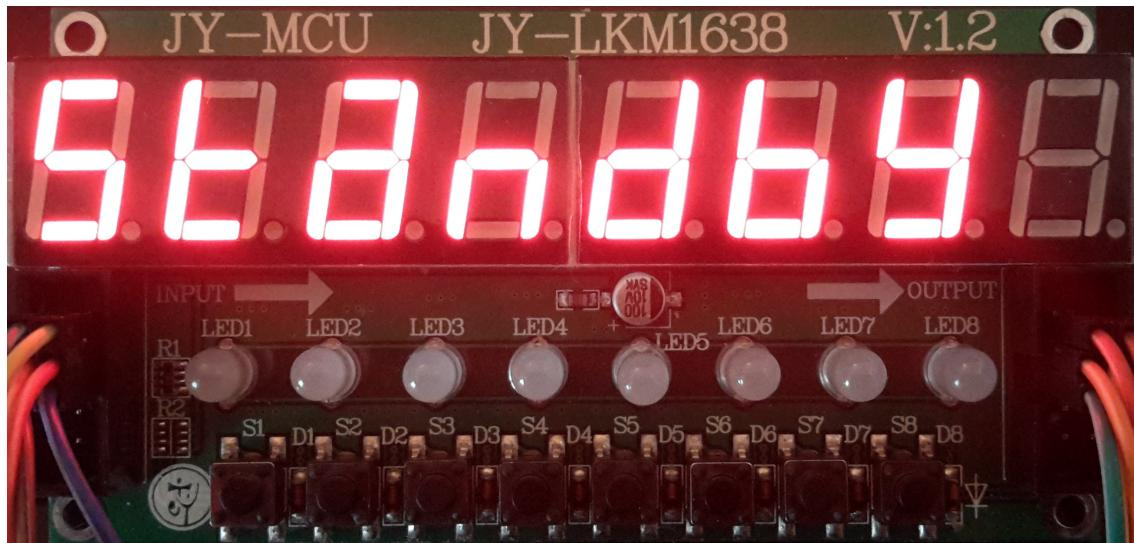

Figure 4: Standby mode is when the oven is currently not performing a task, in other words it is idle awaiting a command.
- ▶ Indicated by the display output of “standby” (fig. 4 on the facing page) or, if the clock is set, showing the current time with the status LEDs slowly counting up (in binary fashion.)